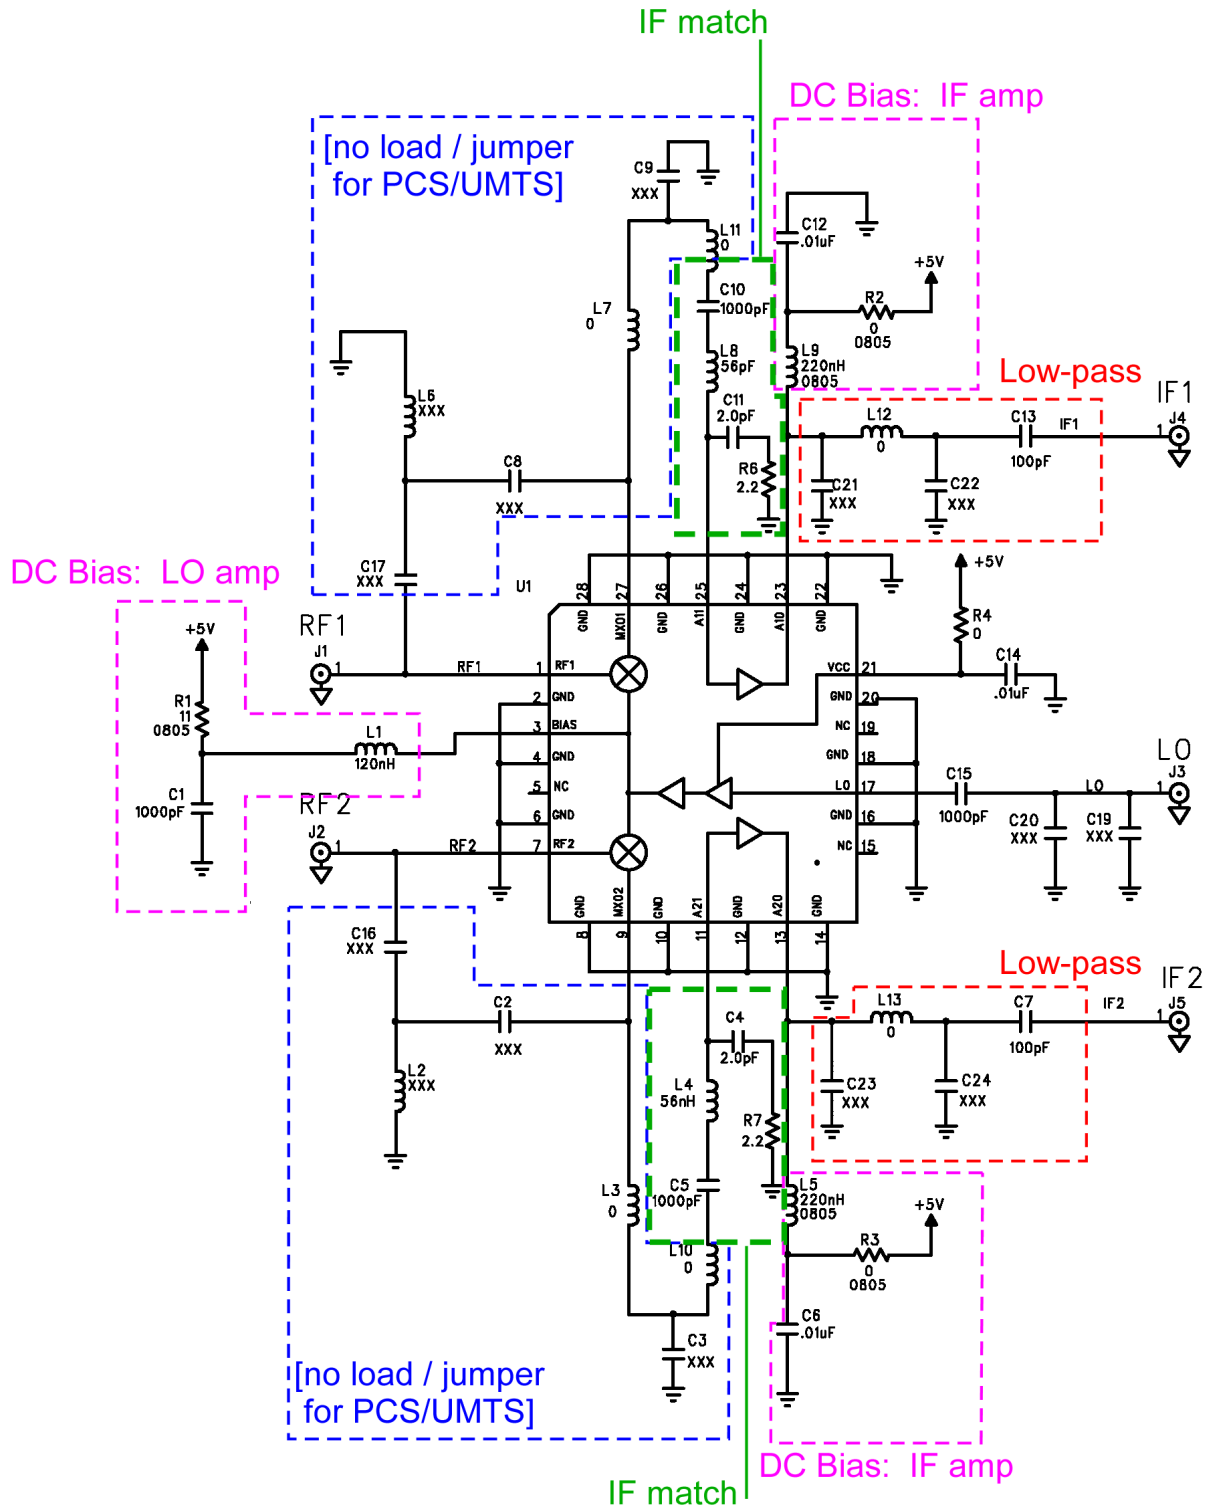

Figure 6. Schematic for the CV211-1 with an IF center frequency of 240 MHz
**CV211-1:** Figure 6 shows the application circuit for the PCS/UMTS band CV211-1 with an IF center frequency of 240 MHz. Since the PCS/UMTS products have an internal diplex function, no external diplexer is required. In this case, pins 1 and 7 are active and provide the RF input path. Therefore, components C2, C3, C6, C8, C16, C17, L2, and L6 should be either no loaded or omitted from the layout. L3, L7, L10, and L11 can also be 0Ω jumpers or replaced with short lengths of transmission lines. Also please note that the value for R1 for optimum LO drive level is 11Ω for the CV211-1.